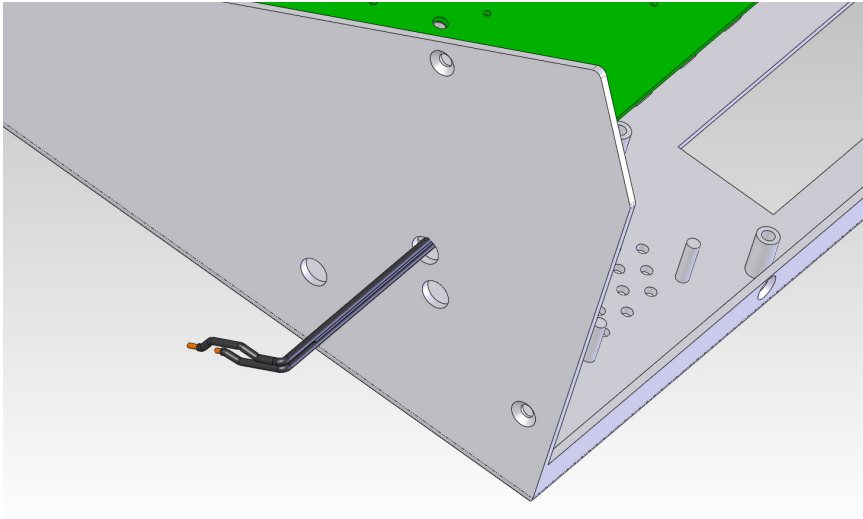

FIGURE 3. Inserting Cable through Case Top
5. Insert the **cable** through the hole of the case top so the connector is on the inside of the case. See Figure 3.